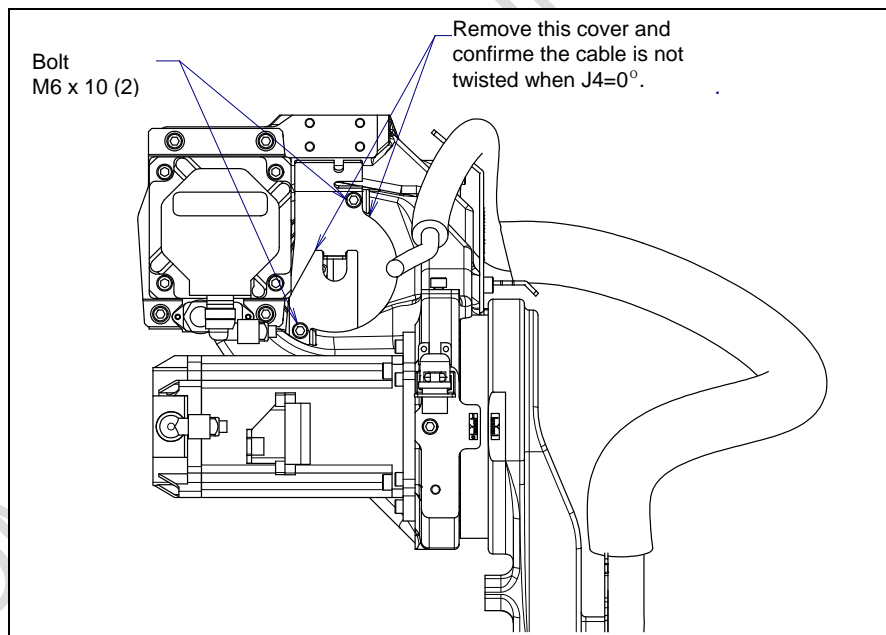

Fig. 6.1 (a) Confirming the state of cable (J4-axis)
- 3 When the motion range is mechanically 360 degrees or more, if any of the axes (J1-axis and J4-axis) to which the cables are connected is turned one turn in the correct mastering position, the cables in the mechanical unit are damaged. If the correct rotation position is not clear because the axis is moved too much during mastering, remove the connector panel or cover, check the states of the internal cables, and perform mastering in the correct position. For the checking procedure, See Fig. 6.1 (a).